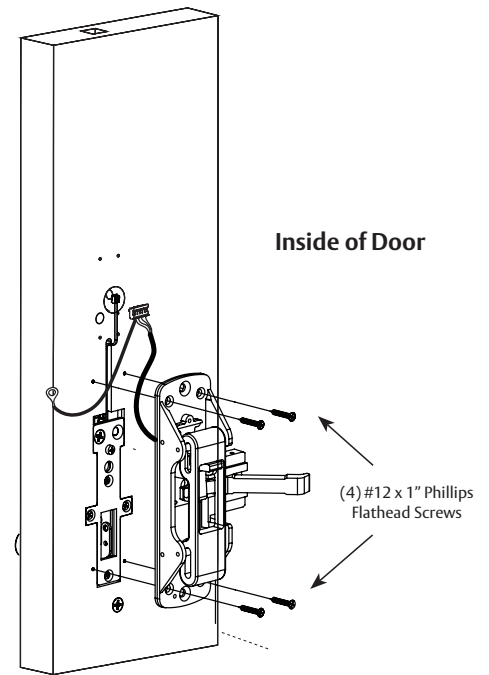

Fig. 4C
1. Position chassis carefully onto the inner case assembly from the inside of the door. Feed wires up through routed channel (Fig. 4C).
2. Fasten the chassis to door using (4) #12 x 1" Phillips flathead screws (Fig. 4C).